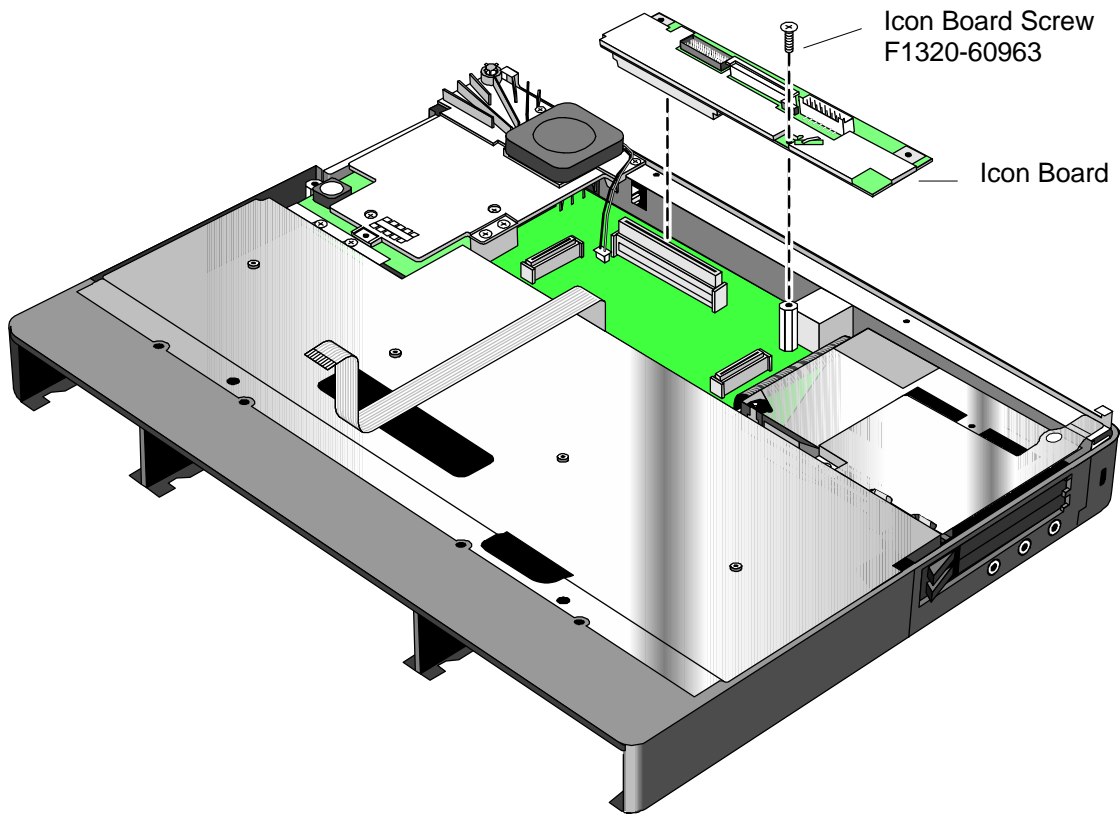

Figure 36 - Icon Board Removal
1. Remove the Icon Board Screw (see Figure 36). Gently rock the Icon Board back and forth to free it from the connector.